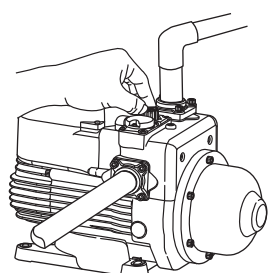

Fig. 8
- 10.1 Before starting, the pump must be primed. For installation with no inlet pressure, please follow the procedure as shown in Fig. 8. (There are water outlets in both vertical and horizontal directions, please use than according to your needs.)